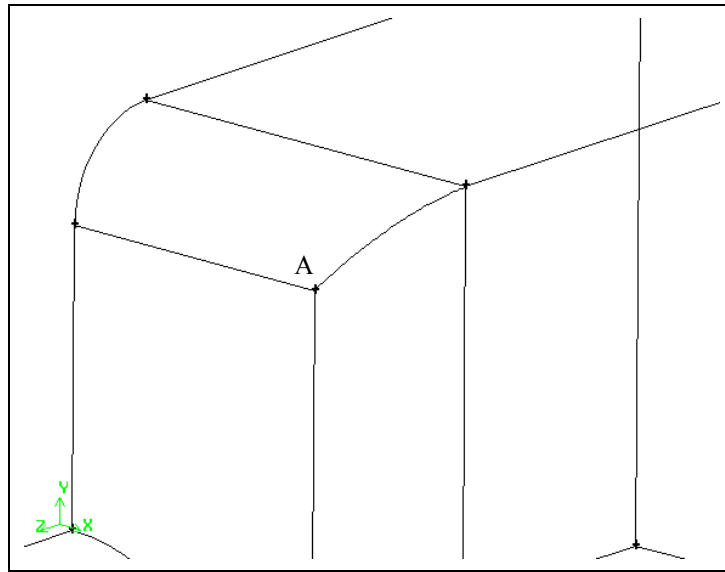

Figure 4-13: Vertex to copy
- a) Select the vertex marked A in Figure 4-13.